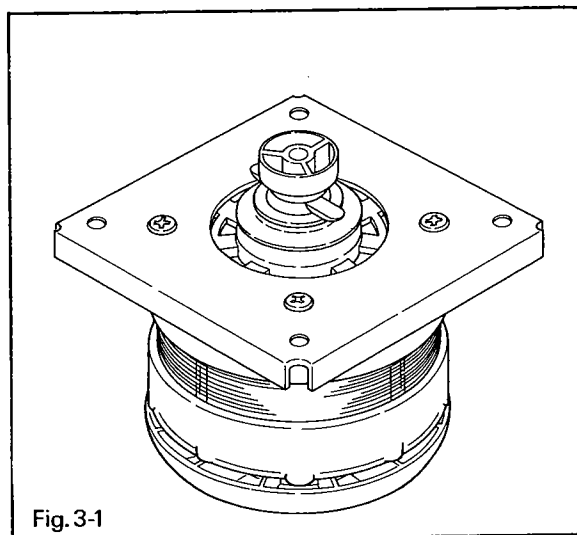

Fig. 3-1
2. Reverse the tape deck so that the front faces to the rear. Remove the four motor chassis (21) fastening screws (⊕ M 4 × 8), then the motor assembly will be detached in the manner as shown in Figure 3-1.
3. Remove the capstan motor (20) fastening screws (⊕ M 4 × 8) of the motor assembly by turning them counterclockwise, and remove the capstan motor from the motor chassis.
7. When the above procedures are finished, the motor chassis looks as shown in Figure 3-1. Remount the motor assembly at its original location, and screw-lock the heads of the screws. Then turn the deck forward to face the front, and hook the belt onto the motor pulley.